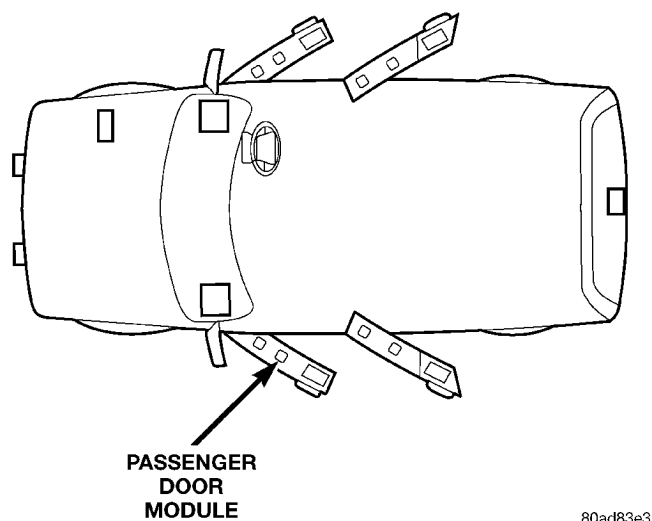

Fig. 2 Immobilizer Receiver Location—RHD Vehicles
(1) Disconnect and isolate the battery negative cable.
(2) Remove the left front door trim panel for RHD vehicles (Fig. 2) or the right front door trim panel for LHD vehicles (Fig. 3). Refer to Group 23—Body in this manual for trim panel removal procedure.
(3) Remove the receiver.
(4) Unplug the immobilizer receiver from the wire harness connector.
(5) Reverse the removal procedures to install.
(6) Refer to the Vehicle Theft Security System menu item on the DRB scan tool for the procedures